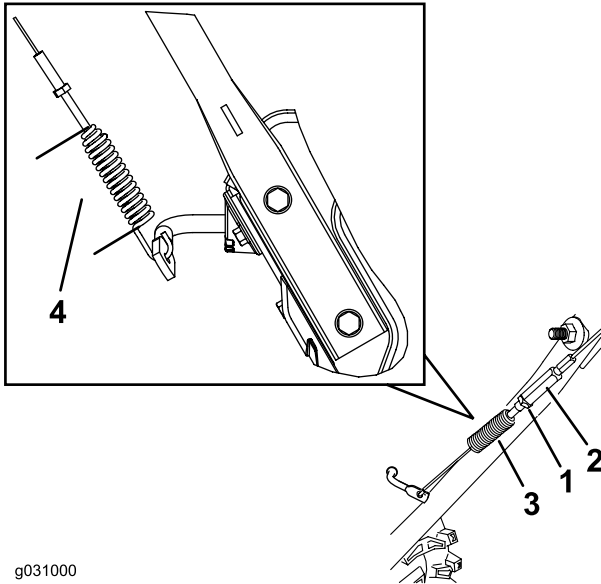

Figure 29
- Loosen or tighten the turnbuckle to adjust the spring length to 7 cm (2-3/4 inches) as shown in Figure 29.
- Tighten the jam nut (Figure 29), ensuring that there is slight tension on the cable.